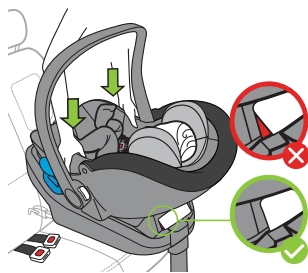

Figure 49
- Lower Carrier onto the Base and push down on each side of the Carrier to connect it to the Base as shown in **Figure 49**. The red area on the side of the Release Handle will completely disappear when the Carrier is securely attached. If the red area is visible, the Carrier is NOT properly secured.